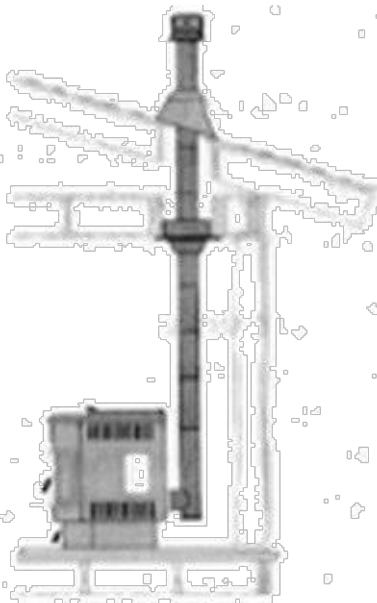

Fig. 3
- Horizontal vent with backup vertical venting (see Fig. 3)